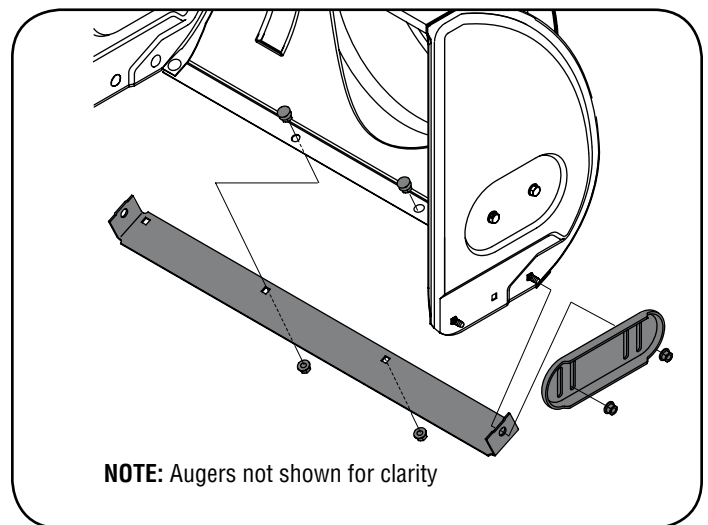

Figure 12
1. Remove four carriage bolts and lock nuts which attach two skid shoes to the snow thrower on two sides. See Figure 12.
1. After removing both skid shoes, remove four carriage bolts and lock nuts which attach shave plate to the snow thrower housing. See Figure 12.